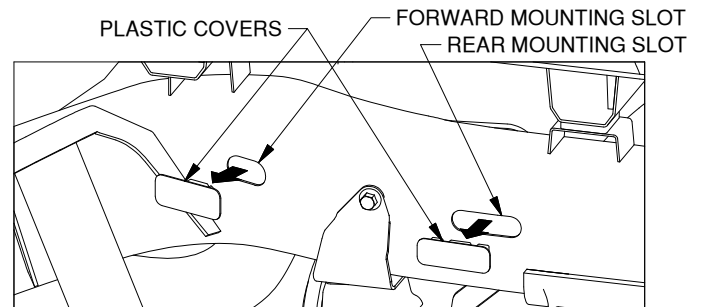
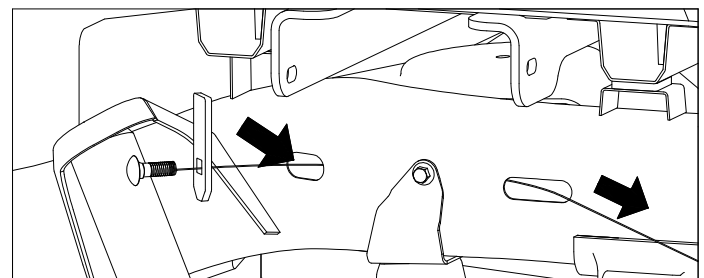
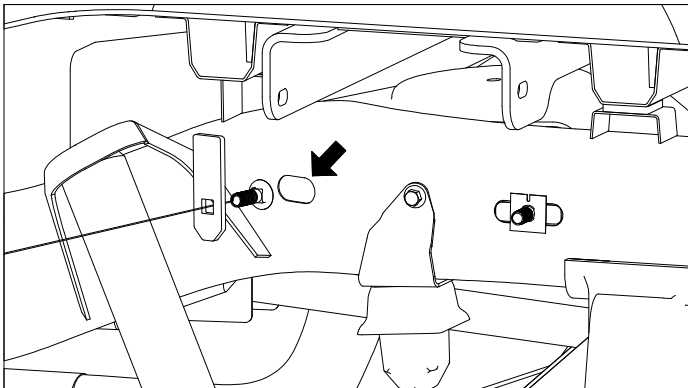
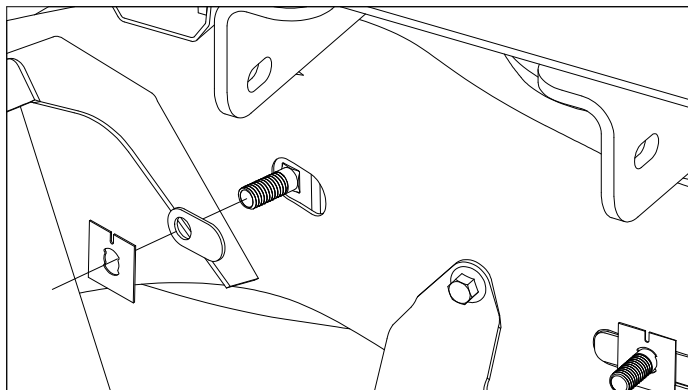

Figure A9: View looking into driver side wheel well.
Figure A10: View looking into driver side wheel well.
Figure A12: View looking into driver side wheel well.
Figure A13: View looking into driver side wheel well.
12. **Prepare to install carriage bolts.** Locate the plastic slot covers inside each rear wheel well, as shown in Figure A9. Remove four covers by prying them out of the frame. Discard the covers.
13. **Fish rear carriage bolt.** Locate the forward and rear mounting slots shown in Figure A9. Thread a 1/2" x 1-1/2" carriage bolt and locking strap onto a fish wire. Pass the fish wire from the forward mounting slot through the frame and out of the rear mounting slot, as shown in Figure A10.
15. Install forward carriage bolt. Locate the forward mounting slot shown in Figure A9. Thread a carriage bolt and locking strap onto a fish wire. Insert the carriage bolt and locking strap through the mounting hole until both are completely inside the frame and only the carriage bolt is passing through the hole, see Figure A12. Install the oval frame spacer onto the bolt and place it into the slot in the frame, as shown in Figure A13. Thread a retainer onto bolt until it is snug. Repeat Steps 13-15 on other side of truck.